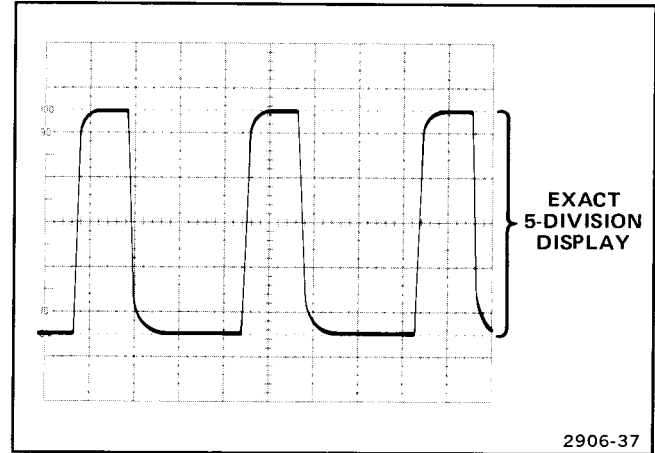

Figure 20. Rise-time setup, five-division display.
1. Acquire the waveform to be measured in the NORM Storage Mode. Use appropriate STORAGE WINDOW and Trigger SLOPE settings that will display the leading edge of the waveform at the start of the trace. Use a TIME/DIV setting that will display several cycles or events, if possible (see Figure 20).